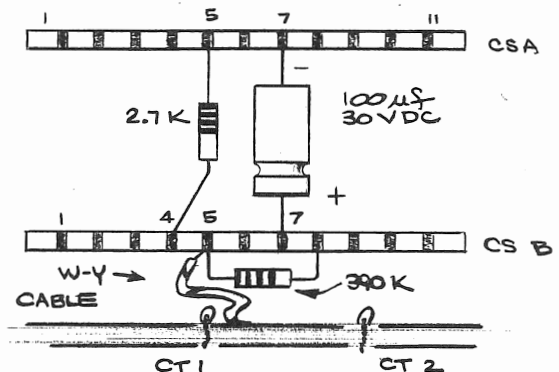

FIG. 3
- 2. Install the following components and wires, as indicated in Fig. 3: